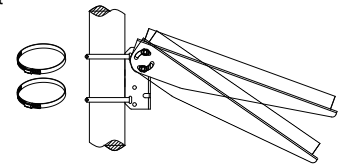

figure 2
**Step4.** For pole mounting, use hose clamps( not included) to fix the PV module and mount assembly securely to the pole. **See figure 2**. The U-Bolts, Steel Clamps and Molly Bolts are not included in the kit